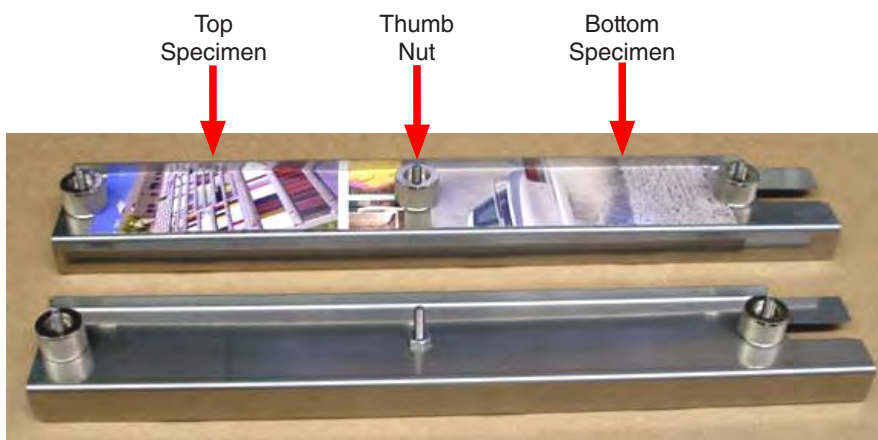

Figure 12.3i: Center nut added for mounting shorter specimens.
- Specimens up to 12 mm thick are mounted on the side facing the lamp using thumb nuts (Figure 12.3g through Figure 12.3i).